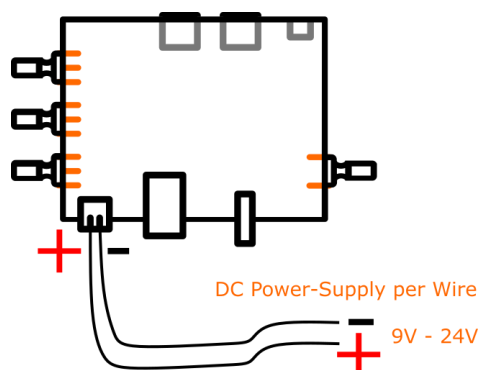

Figure 10: DC Power-Supply per Wires
The third option for power supply is via wires (see Figure 10). Please take care of the polarity (+/-) and the allowed voltage-range of 9V – 24V.
- **Power-Supply per Wires:** As already described in Figure 10, the module can be powered with DC-voltage (9V – 24V) via wires.